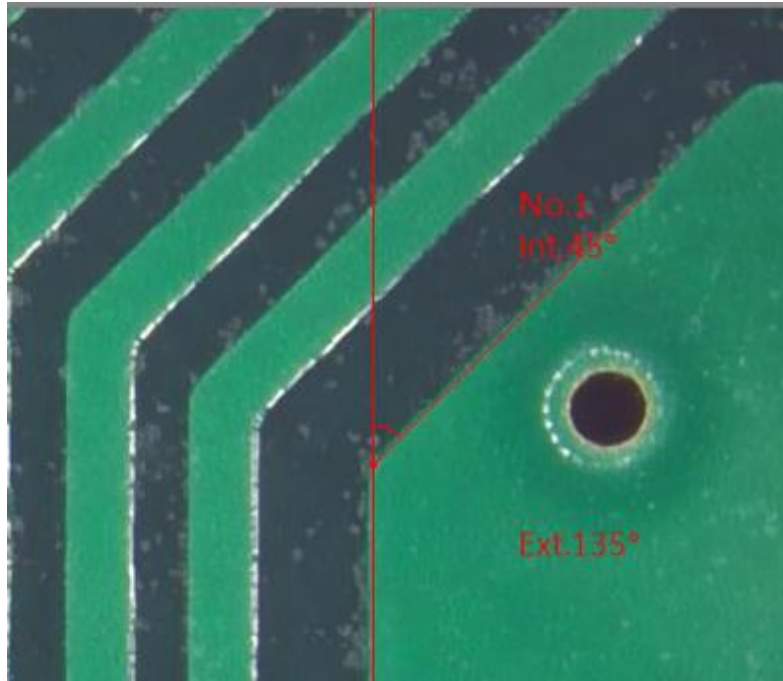

Fig. 5-15 Assisted measurement of Vertical Angle
(12) Vertical Angle : Measure any Vertical Angle by a vertical line that can apply  tool. Draw a vertical line, auto pop up the other oblique line to the vertical line, then auto measure the inner Angle/ external Angle as Fig. 5-15 shown.